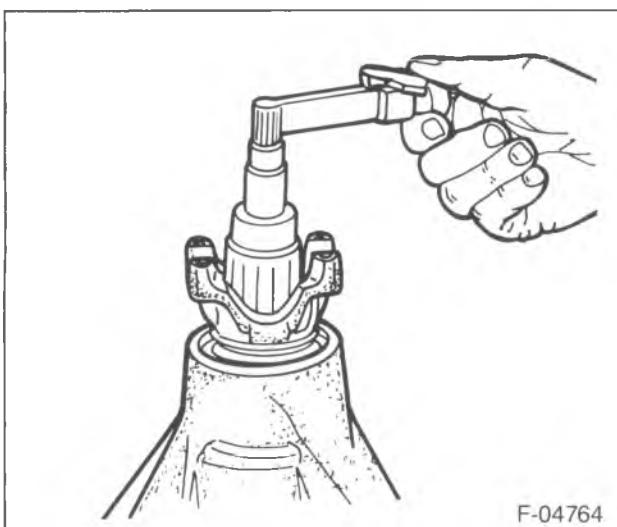

Figure 25—Measuring Pinion Preload
Measure (Figure 25)
- Pinion bearing preload. Use an inch pound torque wrench (figure 25). The correct preload is 1.7-2.8 N·m (15-25 in. lbs.).